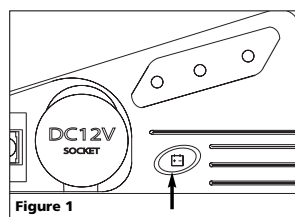

Figure 1
Push the battery status button located below the battery indicator lights to check the battery level (see Figure 1).
1. Insert the 12-volt DC cord into the 12-volt DC output socket on the inflator (see Figure 1).